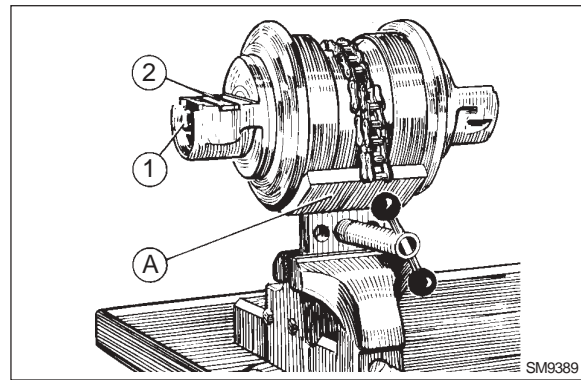
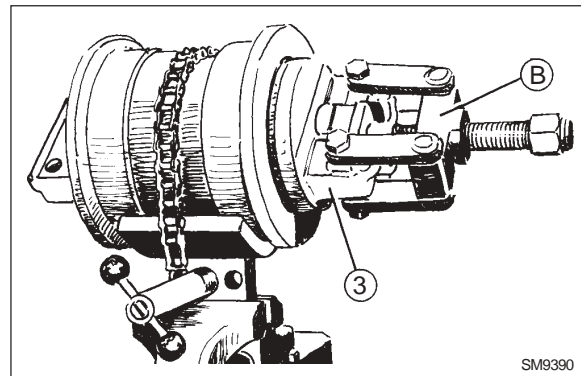

Fig. 36
Fig. 37
1. Mount and lock the roller in a vice using tool (A, Fig 36), remove plug (1) and drain the lube oil.
2. Remove roller support retaining plate (2).
3. Use a screw puller (B, Fig.37) to pull out supports (3) from the roller shaft.